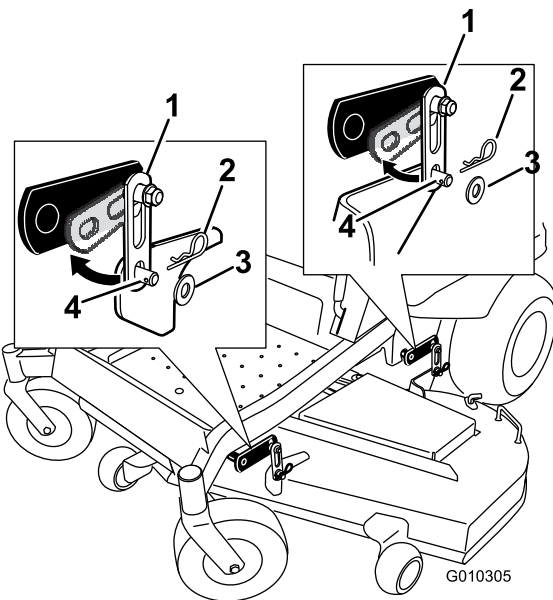

Figure 73
2. Remove the hardware from the front and rear deck hangers on both sides of the deck (Figure 73).
5. Lift the rear of the mower deck and attach the rear support on the mower deck to the rear deck hangers. Secure them with a washer and hairpin cotter (Figure 73).
6. Attach the front support on the mower deck to the front deck hangers and secure them with a washer and hairpin cotter (Figure 73).